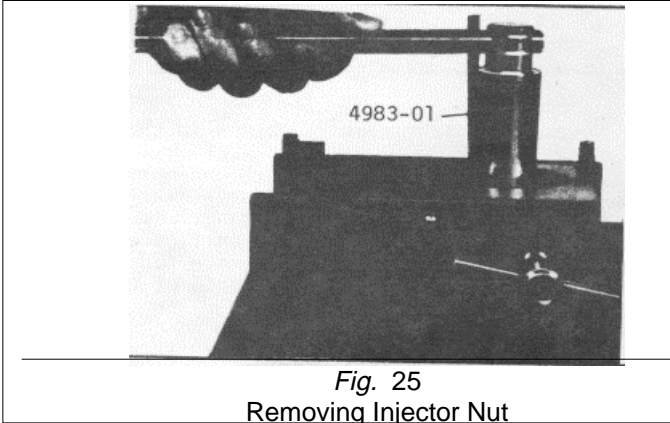

Fig. 25
- (4) Invert the fixture and, using socket J4983-01, loosen the nut on the injector body (Fig.25).